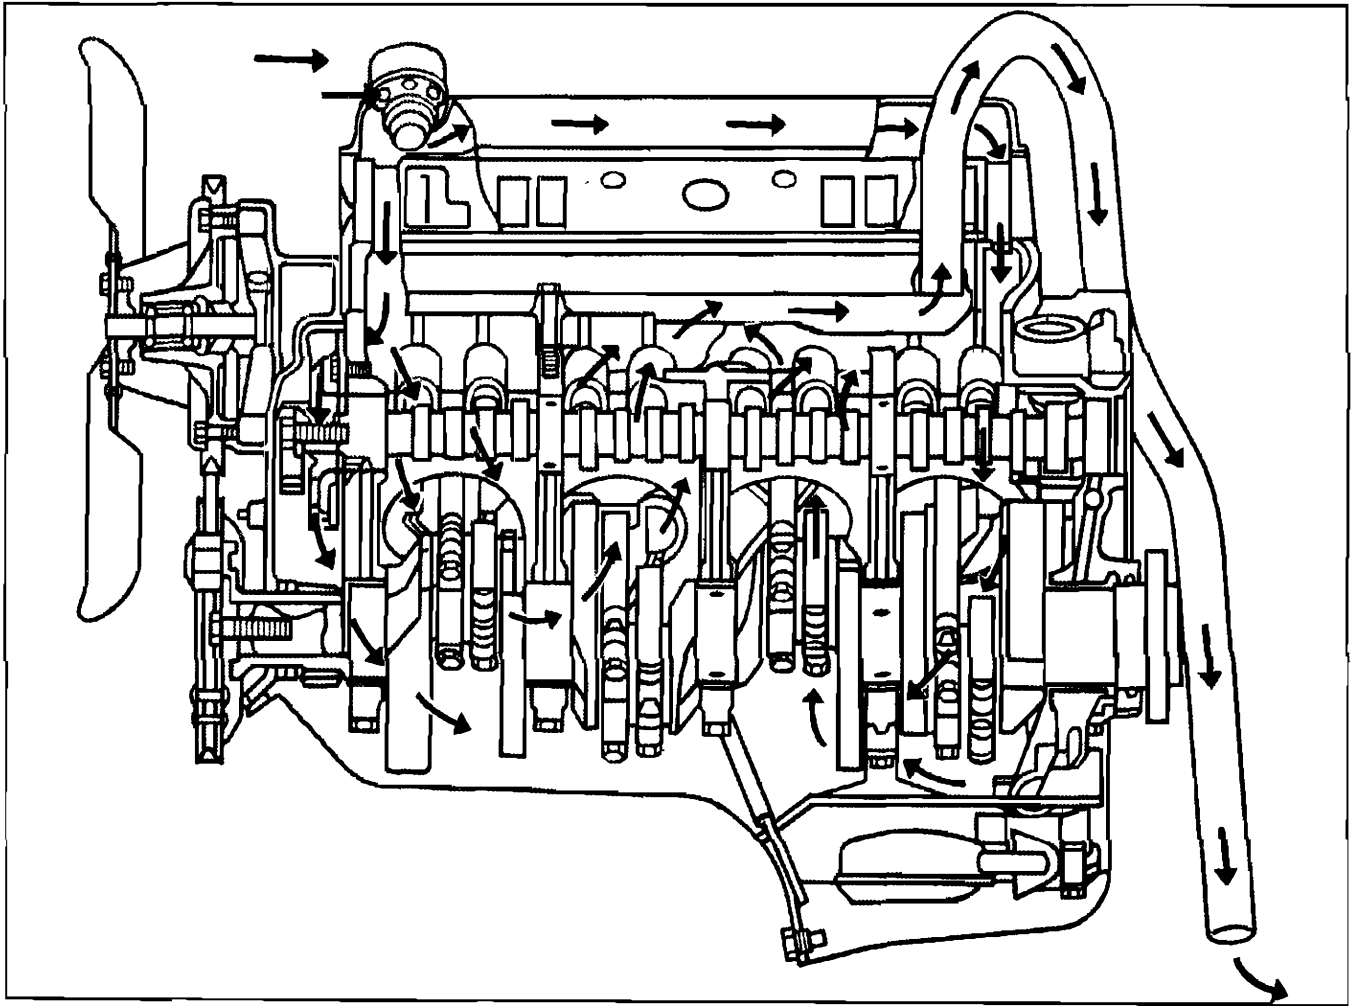

Fig. 6A-9 Crankcase Ventilation System
4. Hand tighten filter on hollow center stud until gasket contacts filter base, Fig. 6A-10, then complete tightening with additional $\frac{3}{8}$ turn of filter but **DO NOT OVER TIGHTEN**. Use care when tightening to prevent "bunching" of gasket. **DO NOT USE WRENCH TO TIGHTEN CARTRIDGE.**